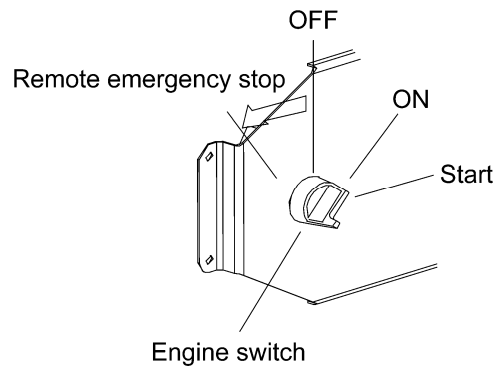

Figure 26 Remote stop in remote start status
6.3 In condition that the generator cannot be stopped by remote control, turn the engine switch to OFF1 position, then the remote control can emergency stop the generator in remote start status. See figure 26.